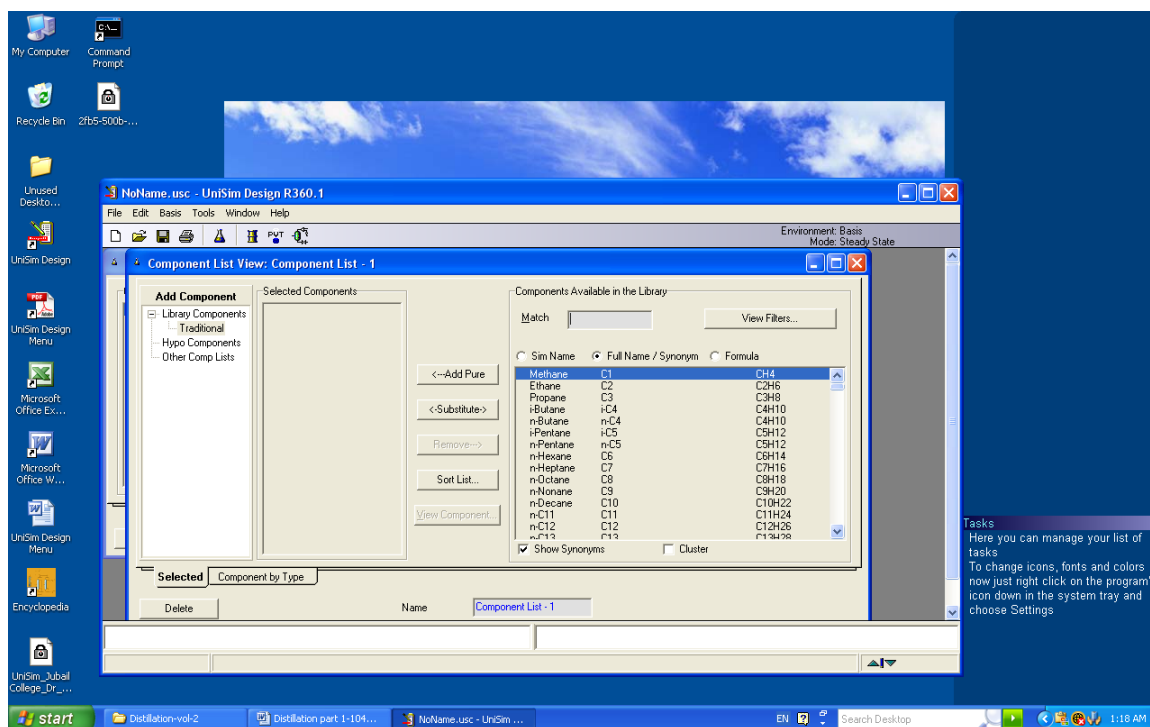
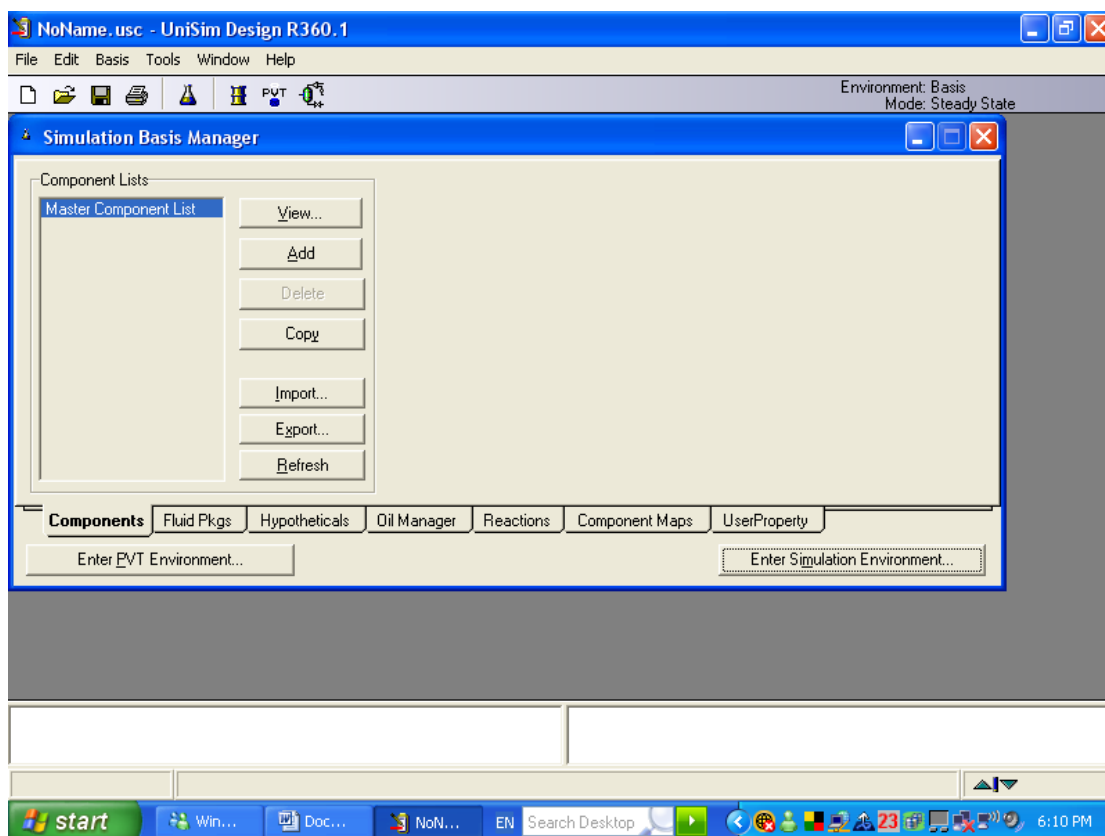

Figure K-6. Snapshot of the Component List View window showing the components.
Figure K-7. Snapshot window of Simulation Basis Manager
Step 7. The Simulation Basis Manager window appears as shown in Figure K-7. Click on Fluid Pkgs tab as shown in Figure K-6. Then click on the Add button to select the components.